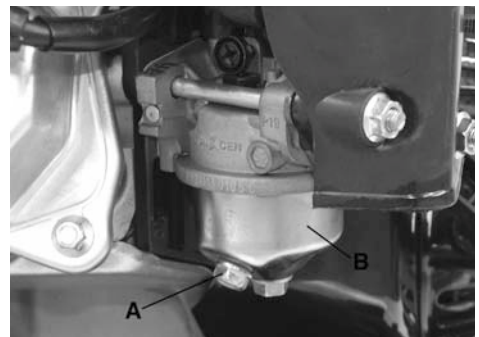

Figure 17
- 3) Turn fuel shut-off valve to the "OFF" position, remove drain hex. bolt (A) Fig.17 from the carburetor (B).